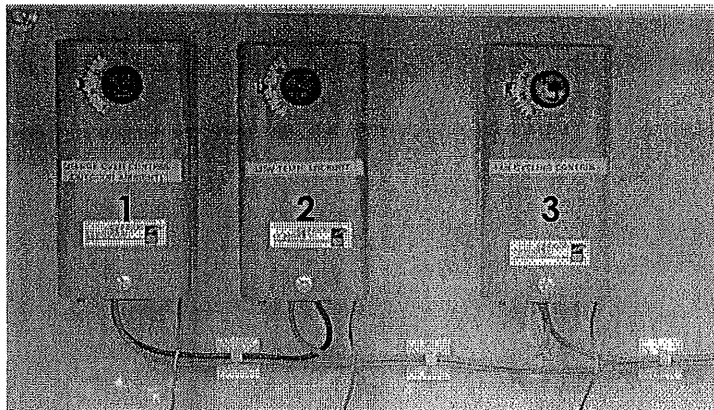

Figure 3 - Free Cool Thermostats
There are three main controls in a *free cool module* (See Fig. 3 below): Change Over Control (1), Low Temp. Lockout (2), and Fan Cycling Control (3). By manipulating these three mechanical thermostats, the module will cycle the fans *on* or *off*, as well as control a diverting valve to either force the fluid through the coils or bypass around the coils.